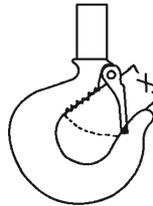

Figure 3 - Hook Inspection
- c. Inspect hook once daily for cracking, extreme wear or spreading. Replace hooks showing any of these signs. If the throat openings are spread wider than the maximum permissible 15% increase listed in Fig. 3, the hooks have been overstressed and must be replaced. Any hook that is bent or
twisted more than 10 degrees from the plane of an unbent hook must also be replaced (see Fig. 3).